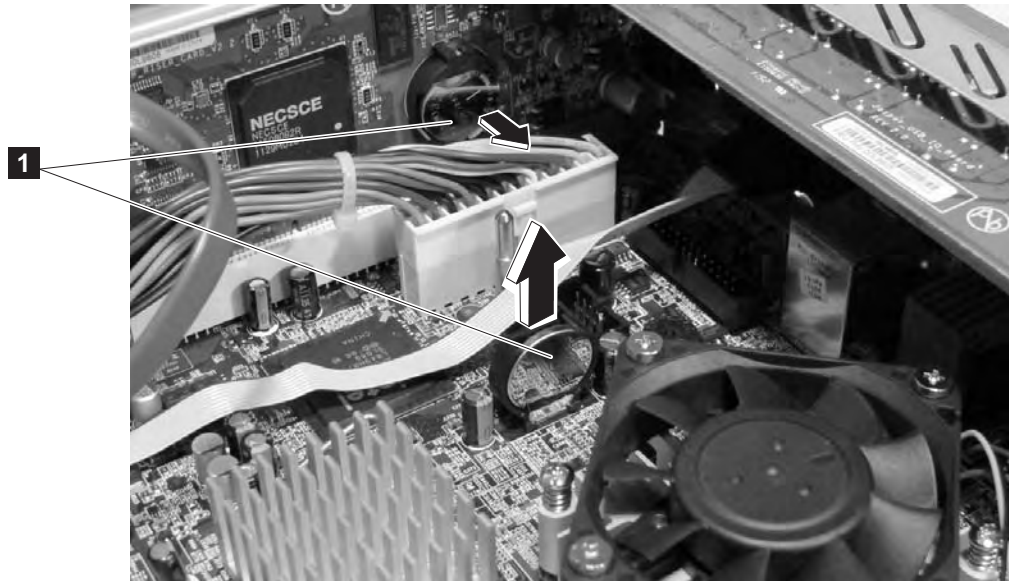

Figure 31. Removing and installing the battery (Model x5x)
There are two batteries in the IBM SurePos 300 for Model x5x. Figure 31 shows where the batteries are located in the IBM SurePos 300 for Model x5x.
3. Remove the battery **1** by sliding it up in the direction of the arrow, as shown in Figure 31.